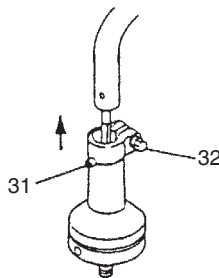

Fig. 27
**Flexible drive shaft (Fig. 27)**